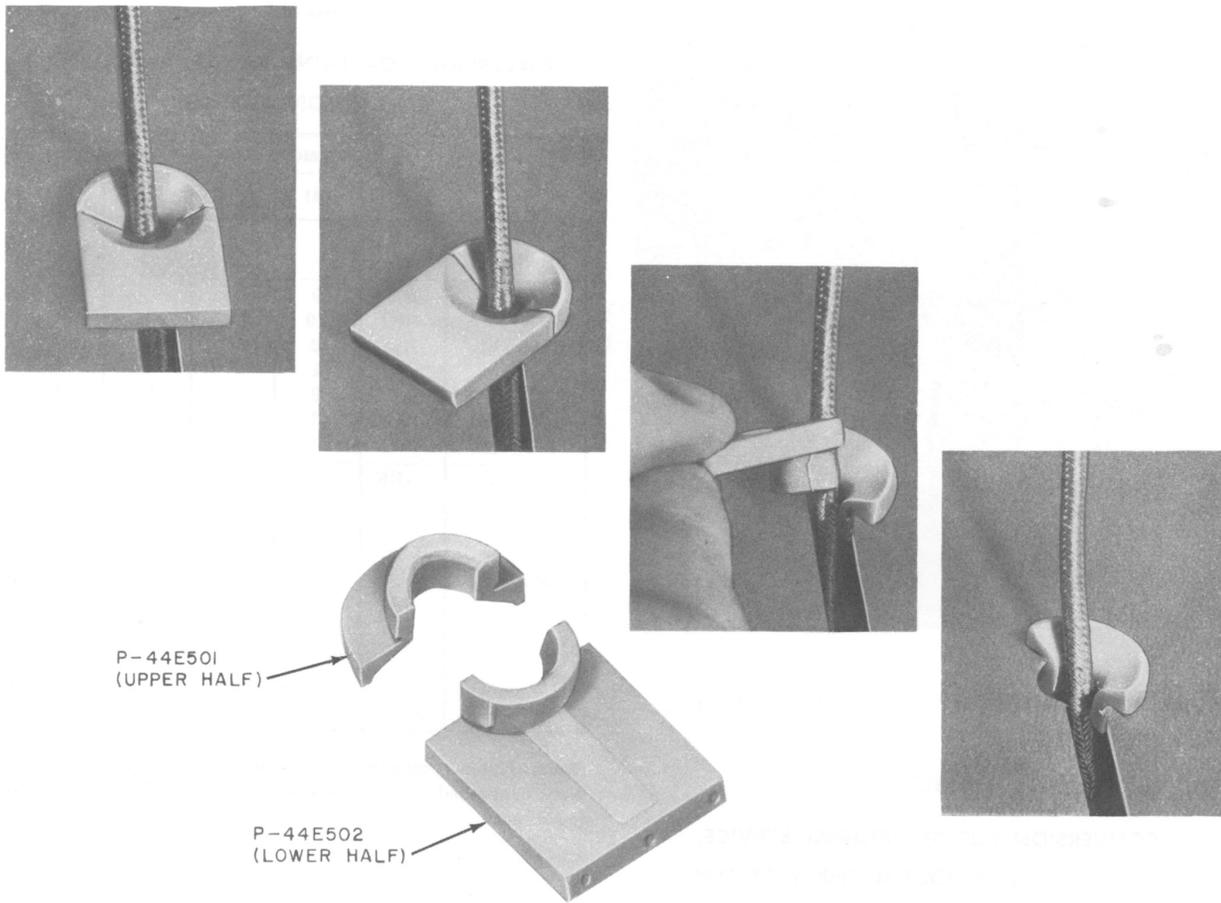

Fig. 4—Removal of Handset Cord Grommet
(1) Grasp mat retainer frame at top, lift upward and out to release frame from panel of set.
(2) Remove handset from hook of set.
(3) Pull out handset cord to allow working slack.
(4) Remove mat from face of panel.
(5) Remove grommet from mat as shown in Fig. 4.
(6) Install grommet in new mat by reversing procedure used in removal.
(7) Position mat on panel and secure using the mat retainer frame.